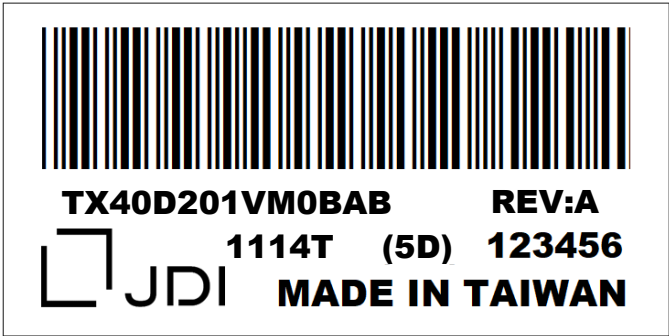

Fig. 14.2
3) The location of the lot mark is on the back of the display shown in Fig. 14.2